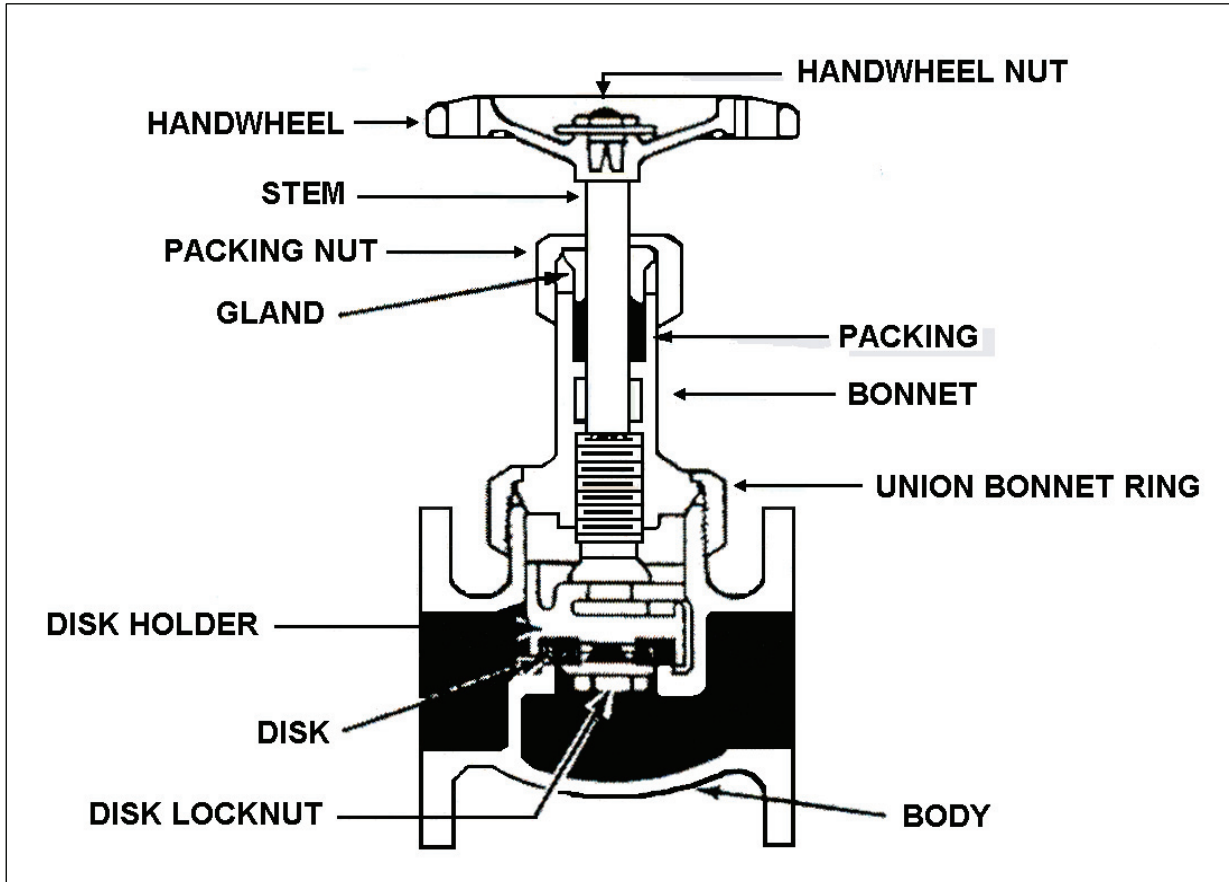

Figure 1
- (2) Repack valve if necessary.
b. Globe valve replace packing (Figure 1).
- (1) Make sure valve is closed.
- (2) Remove hand wheel nut and hand wheel.
- (3) Remove packing nut and gland.
- (4) Remove old packing with a packing tool or hook.
- (5) Cut a new piece of graphite spiral or ring to fit. Use old packing as a cutting guide. Cut rings so that ends meet exactly.
- (6) Coil new piece of graphite in place or place rings on top of one another so that ends of each layer meet on opposite side of stem from previous layer. Force packing down firmly in place.
- (7) Put gland and packing nut back in place. Tighten nut.
- (8) Put hand wheel and hand wheel nut back in place. Tighten nut.